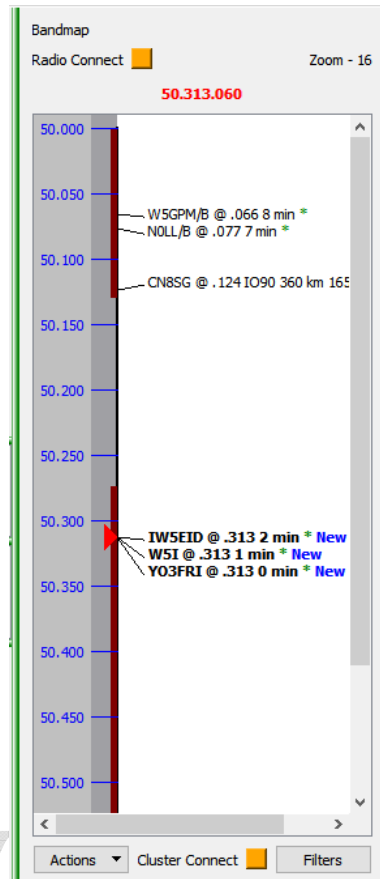

Figure 124 – Bandmap display
An example display is shown in Figure 124. **Beware:** if you don’t see anything, check your filters
To vary the zoom in order to focus on areas of interest use the scroll wheel¹²⁸ while hovering over the grey frequency bar. The current zoom setting (- 16, the least zoom, in Figure 124) is displayed in the top right of the panel. The scroll bar on the right can be used to move within the extended display thus created, or the scroll wheel while hovering over the white portion of the panel¹²⁹.
- The current rig frequency is indicated by the black ‘play’ symbol (‘dial cursor’ on 144.290 in Figure 124). If this symbol turns red it indicates that it is a frequency/mode pairing that does not match the bandplan.
- If the dial cursor is not viewable, click the dial frequency at the top of the panel (144.290 at top of Figure 124) to bring that frequency back into the viewport.